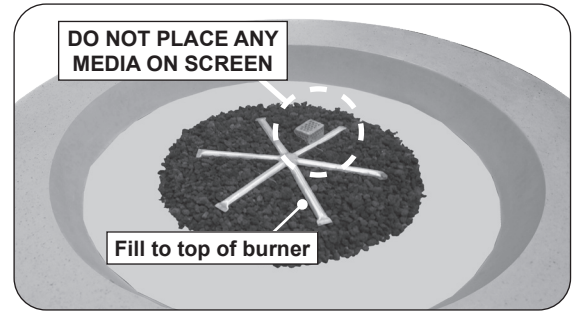
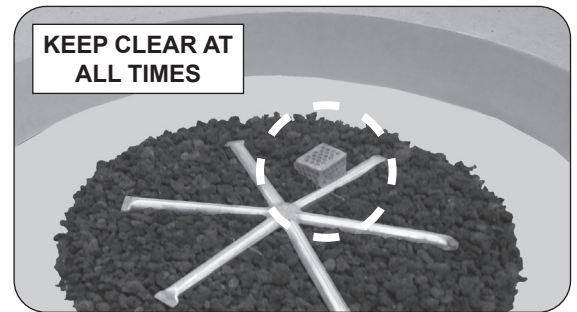

Fig. 35-1 Place lava granules
Fig. 35-2 Screen detail
1. Pour the 10 lb bag of lava granules into the burner area (with the exception of the screen). Spread the granules within the burner area as shown in Fig. 35-1 and Fig. 35-2. **Only fill the granules up to the top of the burner tube.**
Note: Select 12" star burner models only require half of the lava granules bag. **Do not overfill.** See Fig. 35-1 and Fig. 35-2.